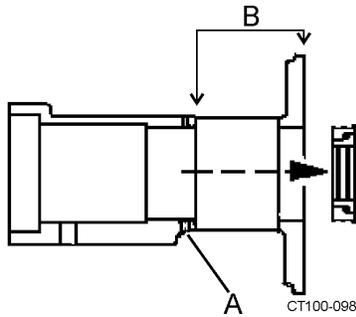
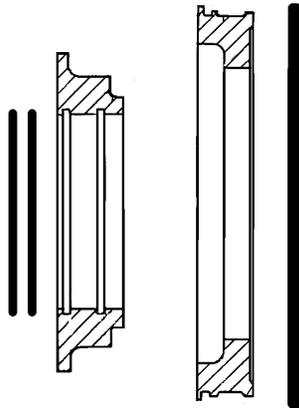
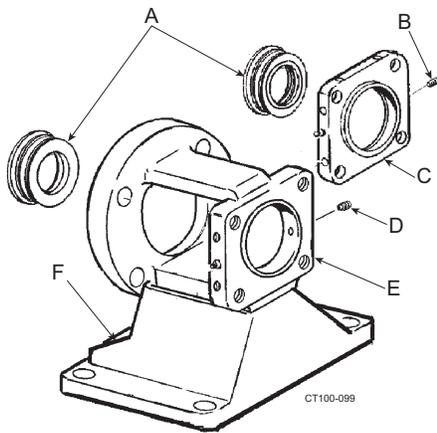

Figure 47 - Remove Setscrews
Figure 48 - Seal Configuration
Figure 49 - Outer Seal Assemblies
9. Remove the stand/housing assembly, than remove the end cap (Figure 49, item C on page 34).
1. Using an 1/8" hex wrench, loosen the setscrews (Figure 47, item A).
2. Remove the impeller end of the bearing housing (Figure 47, item B).
3. Remove the outer seal ring assemblies (the inner seal ring and O-rings). See Figure 47 and Figure 48.
NOTE: Figure 47 shows the seal position at the motor end. Seals at the pump end face inward. Make sure to tighten the setscrews when installing the outer seal assemblies (Figure 49).